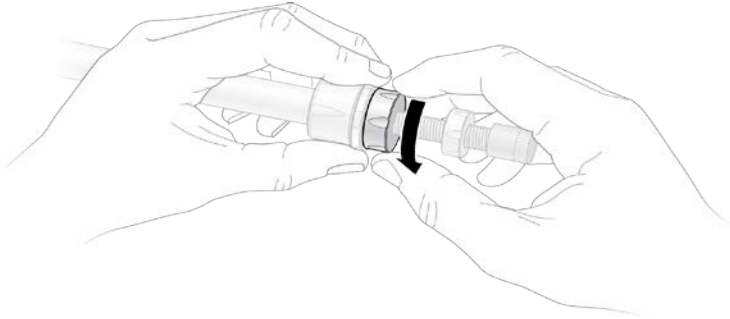

Fig. 5. Raise the adaptor by turning the adjusting nut counterclockwise.
4. Raise the adaptor a few millimeters by slowly by turning the adjusting nut counterclockwise (Figure 5).